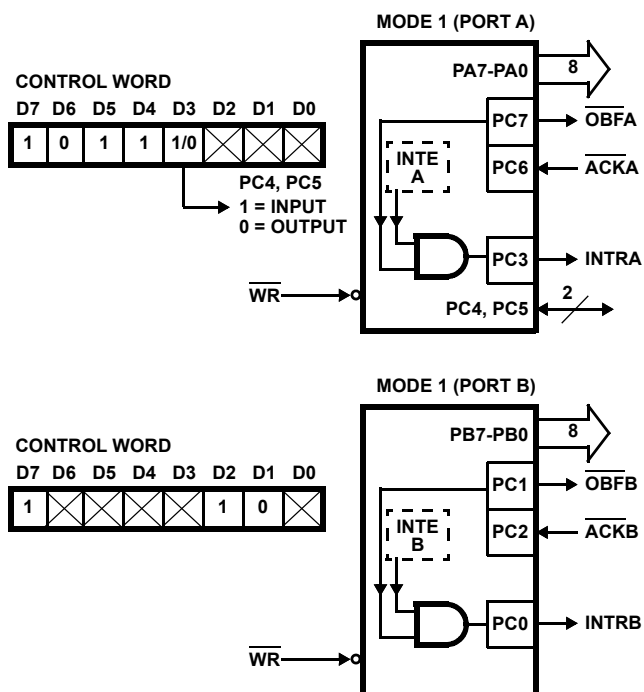

FIGURE 15. MODE 1 OUTPUT
**Reading Port C Status** (Figures 15 and 16)